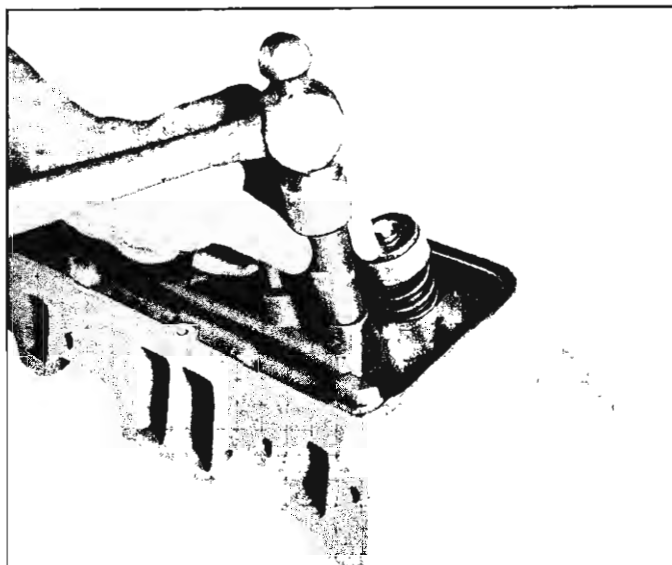

Fig. 69—Installing Valve Rocker Stud
3. Coat press-fit area of stud with hypoid axle lubricant. Install new stud, using Tool J-6880 as a guide. Gauge should bottom on head (fig. 69).